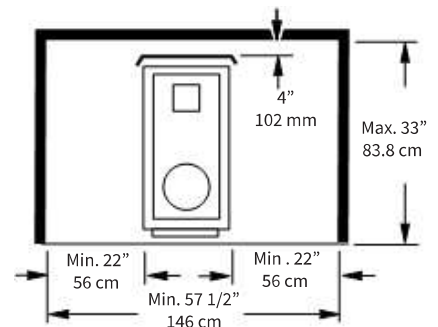

Figure 23. Alcove; Rear Heat Shield, Single-wall pipe and no wall protection.
- The stove may be installed with Rear Heat Shield and single wall chimney connector. See Fig. 23